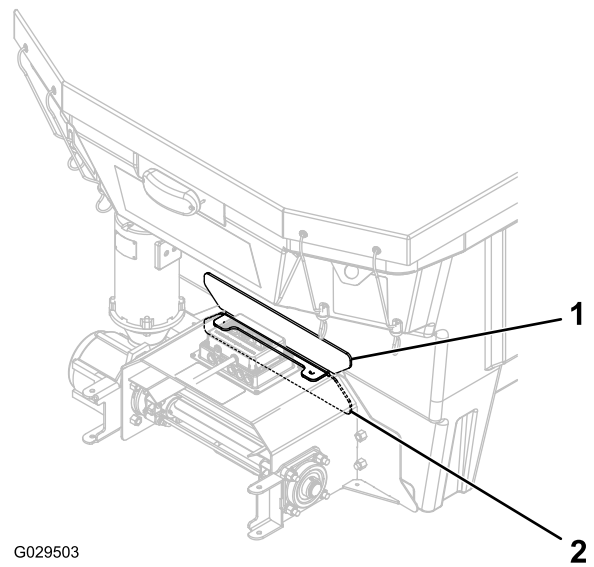

Figure 22
6. Remove the bolts and locknuts securing the restrictor plate (Figure 22).
7. Rotate the restrictor plate to the desired position and secure it with the previously removed bolts and locknuts (Figure 22).